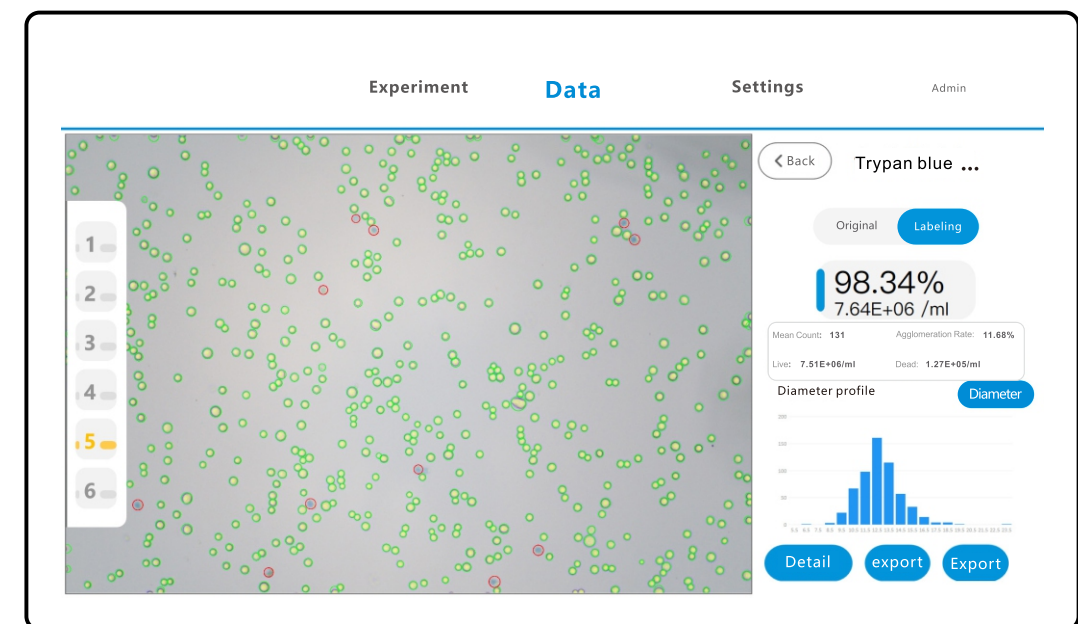
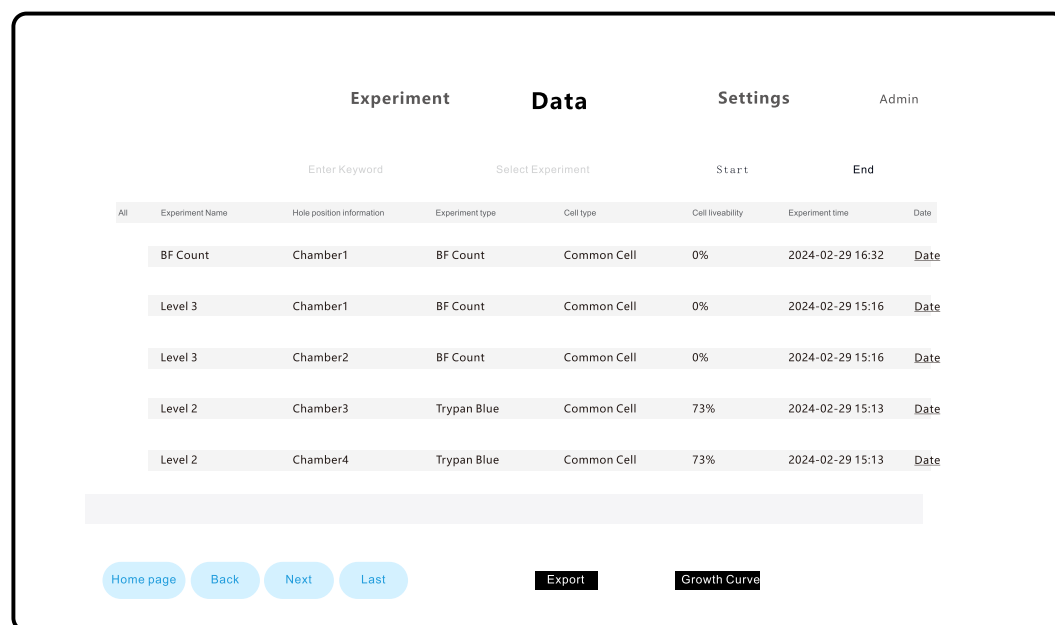

Figure 8 Result Display Interface
Figure 9: Data Interface
- 4 Figure 8: Upon completion of the measurement, the cell counting plate will automatically exit, and the results will be displayed on the screen.
Figure 9: Taking "Trypan Blue Viability" as an example, click "Back" on the top right corner of the result interface (Figure 8) or directly click on the "Data" on the navigation bar above, and select "admin" in the experimenter drop-down menu, "Trypan Blue Viability" in the experiment type drop-down menu, to enter the "Trypan Blue Viability" data interface. Click to select the experiment records that need to be exported.